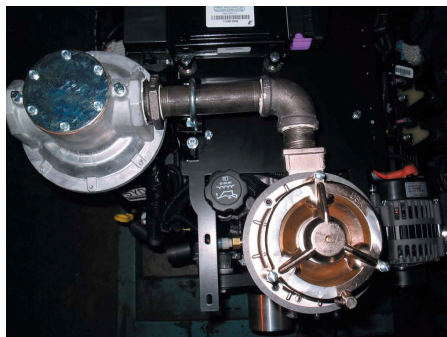

Figure 1-5: 8.1L 100KW-NA with 475 Series Mixer
- Figure 1-5..... 8.1L 100KW-NA with 475 Series Mixer